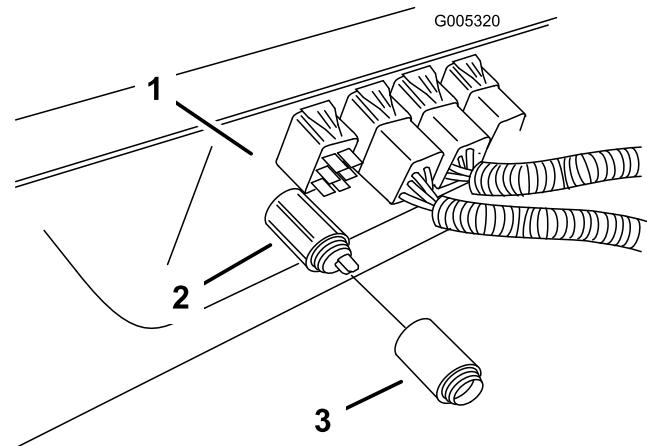

Figure 8
4. Install the power plug interior and plastic cap through the dash in the hole previously drilled (Figure 8).
5. Behind the dash, secure the power plug by installing the power plug outer casing over the power plug interior install in the dash previously (Figure 8).